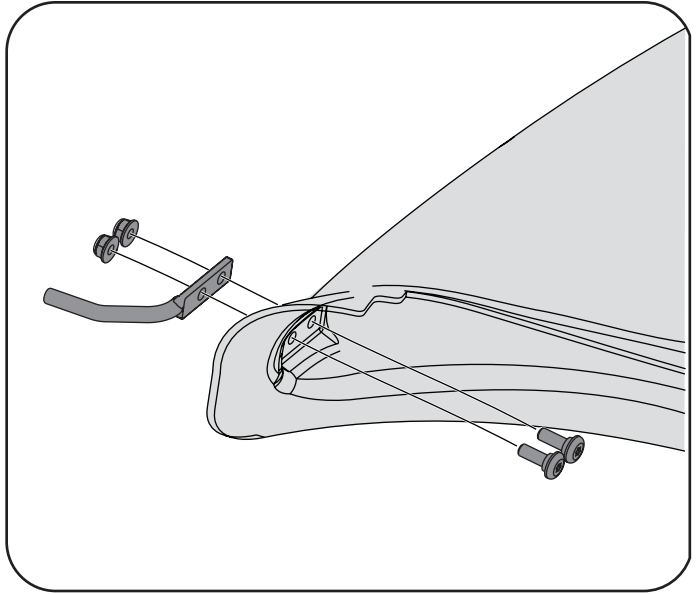

Figure 19
1. Install the boot rod mount (747-06043) to the boot using 2 shoulder screws (738-1225) and 2 flangelock nuts (712-04064) from hardware pack 689-00636. Ensure that the shoulder screws (738-1225) are installed on the interior of the boot. See Figure 19.